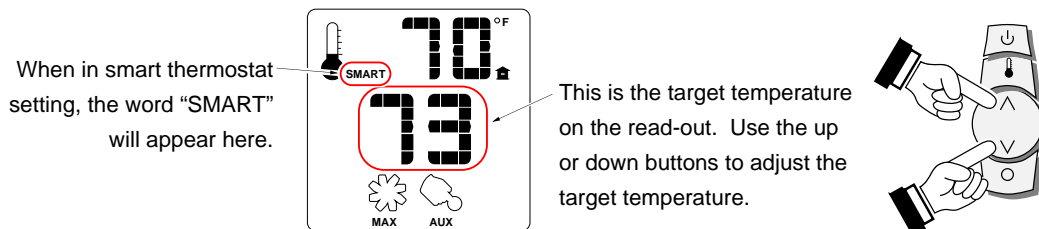

Figure 6
- SMART THERMOSTAT** – While in Smart Thermostat mode, the transmitter will control the flame height to achieve the target temperature ("smart modulation"). If the temperature exceeds the target temperature the heater will shut off. This allows the heater to stay on longer and provide a more consistent temperature. To adjust the target temperature, press the Up and Down buttons until a suitable temperature is achieved. (See Figure 6 below.)